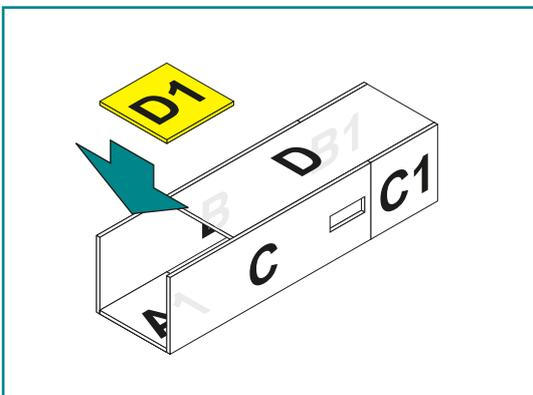

figure 8
2.2.7 Mount panel D1 to panels B and C. (figure 8)